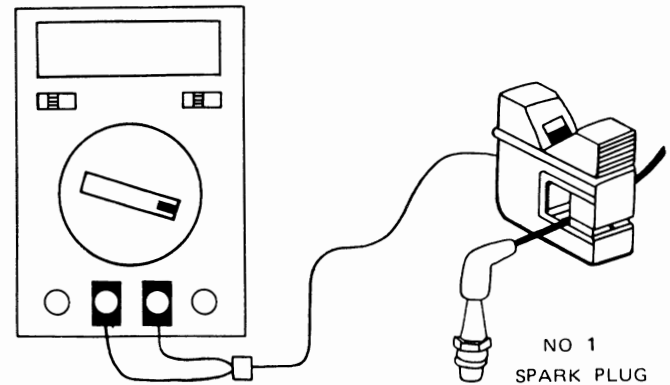

Fig 2
- 4) Connect the RPM INDUCTIVE PICK UP SENSOR to the HIGH TENSION WIRE of No. 1 SPARK PLUG (or No. 2, No. 3... SPARK PLUG), ref. Fig 2, then the display will show RPM reading (x 10 RPM).